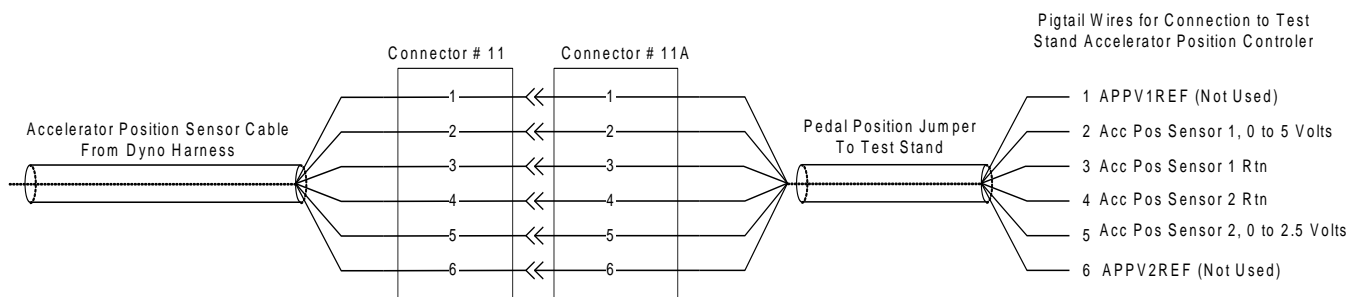

Figure 10: Accelerator Position Wiring Schematic
- Electronic Throttle Controller:** Throttle is controlled using simulated Accelerator Pedal Position signals. The dyno wiring harness is supplied with an Accelerator Pedal Position jumper cable with un-terminated pigtail leads. The test laboratory must connect two voltage command signals, Acc Pos Sensor 1 and Acc Pos Sensor 2, to the Accelerator Pedal Position jumper cable. The voltage control ranges for each signal are shown in Table 3. The wiring schematic and pin-out description for this connection is shown in Figure 10.